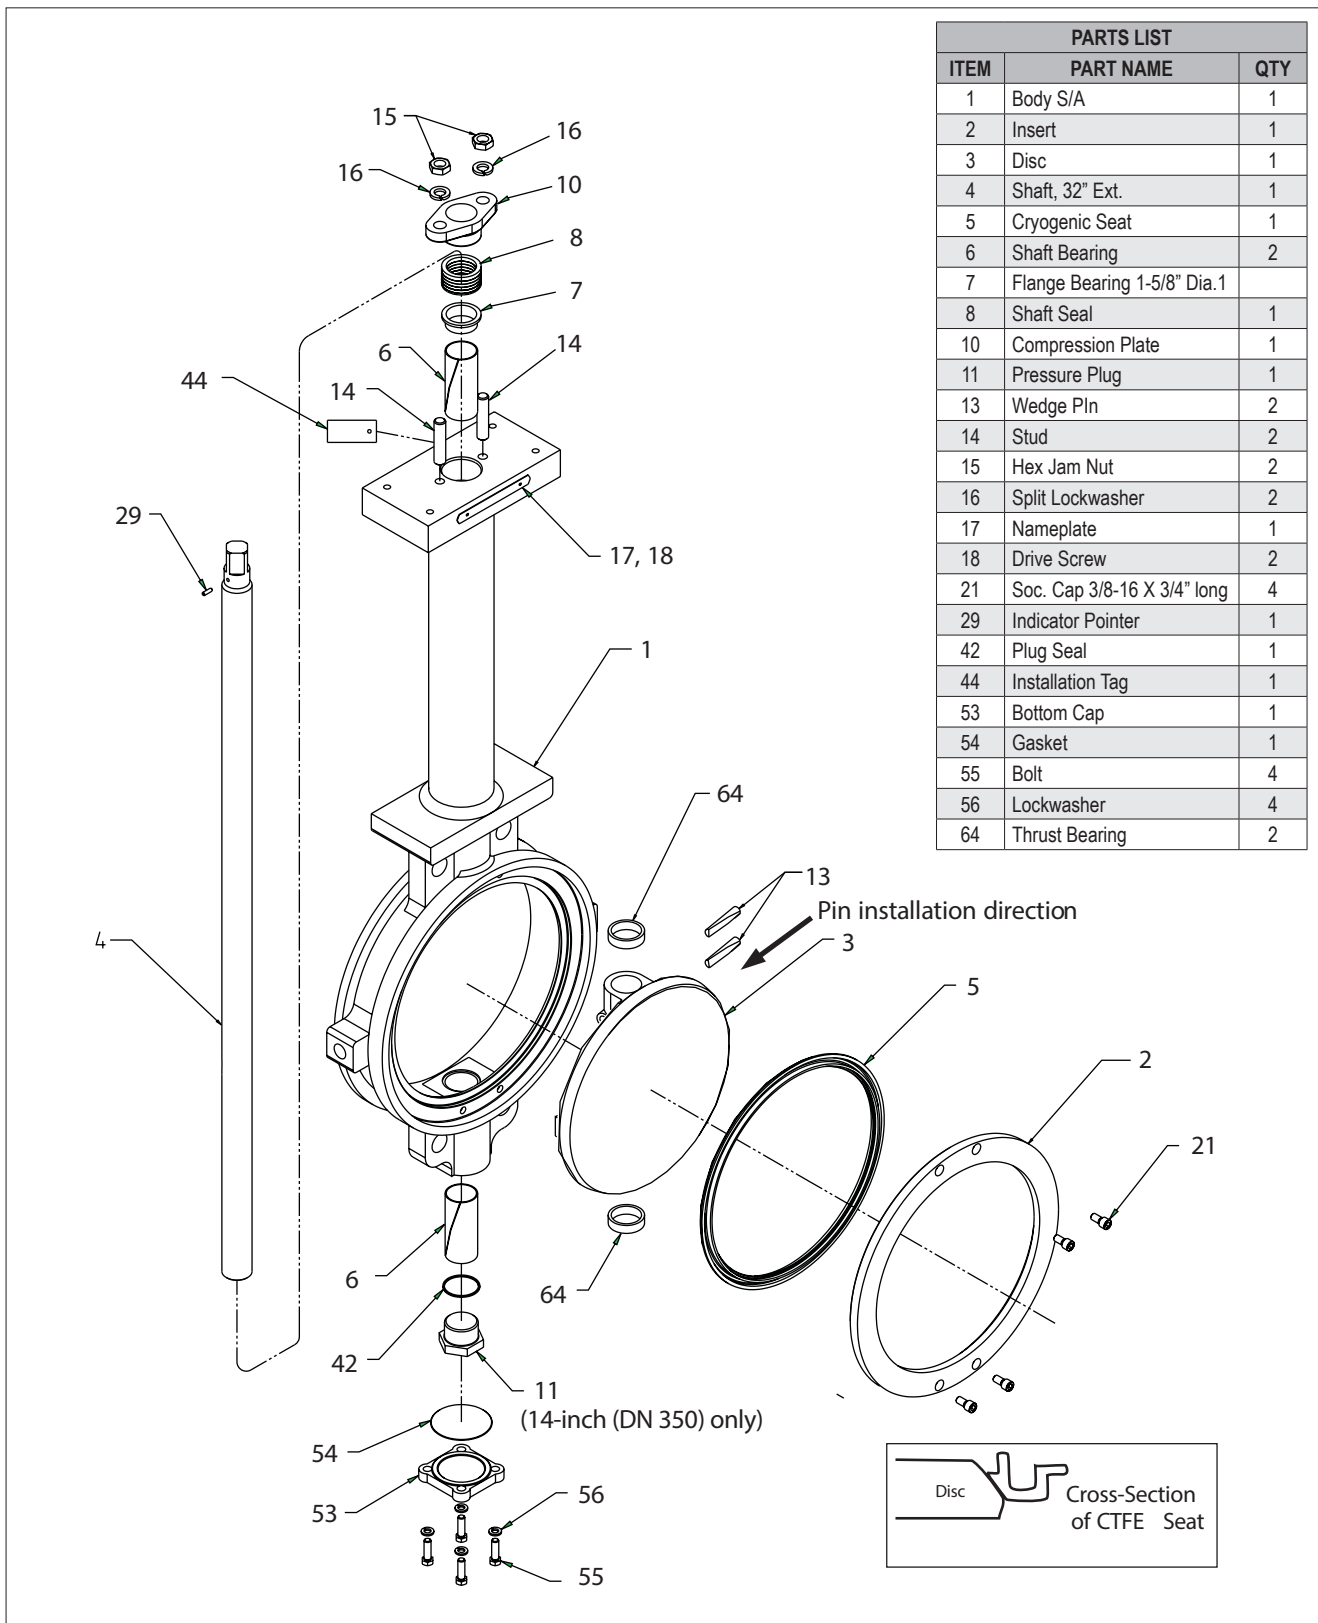

Figure 8.
5. Install the bearings (6) into the body bores.
7. Position the disc (3) in the body between the thrust bearings (64) and slide the shaft (4) through the body and disc. Use caution to prevent damage to the bearings. An arrow and the word "bonnet" on the disc indicates correct orientation.
8. Insert the wedge pins (13) and drive them into place. The pins must be driven so that all pins are the same depth within 1/16" (1.6mm). Be certain that the pins are installed from the direction shown in **Figure 8 or 9**. Weld both ends of the pins, small end first. After the disc cools, clean the welds with a wire brush. **CAUTION:** Use care to keep contamination out of the valve.
10. If the studs (14) have been removed from the valve, reinstall them in the holes shown in **Figure 8 or 9**.
11. Place the compression plate (10) over the shaft (4) and studs (14). Orient the plate so that the indicator pointer will be over the indicator plate. Install the lockwashers (16) and nuts (15), but do not tighten. Install the indicator pointer in the shaft.
12. On valves with cover plates, install bottom bearing spacer (43) in 14"– 16"(DN 350-400) 830W and 830L valves only. Assemble the cover plate (53) and gasket (54) to the cap screws (55) and lockwashers (56). Torque the cap screws per **Table 3**. Place the plug seal in the recess at the bottom of the valve and install the plug. Torque the plug until it is flush with the body. A small (1/16") tack weld on the corner of the plug is recommended. **CAUTION:** A larger tack weld is apt to have enough heat to damage the seal.
14. Install the seat (5), insert (2), and insert screws (21) as shown in **Figure 8 or 9**. Torque values are given in **Table 1**.
15. With the valve still closed, tighten the nuts (15) on the compression plate evenly until the packing is adequately compressed to prevent leakage. This should require tightening the nuts approximately 1-1/2 to 2 full turns past the "finger-tight" position.
- From **Figures 8 or 9**, the ballooned part number, part name and quantity required.